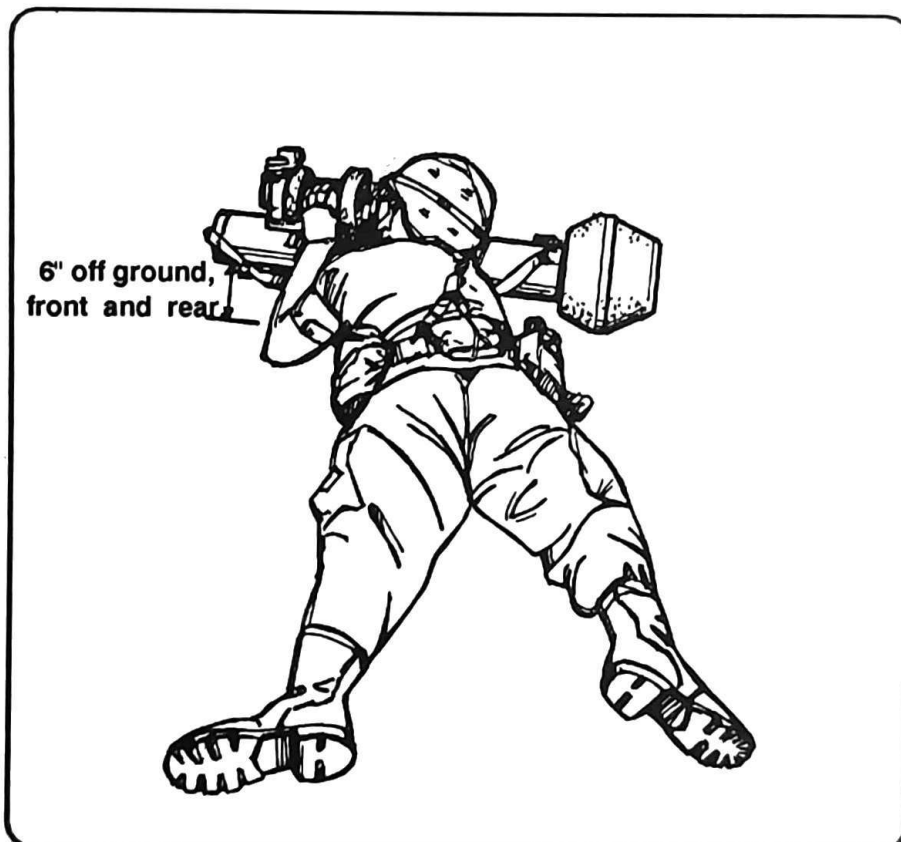

Figure 7-6. Prone position.
d. **Prone Position.** Demonstrate the position, then have the students assume it (Figure 7-6).